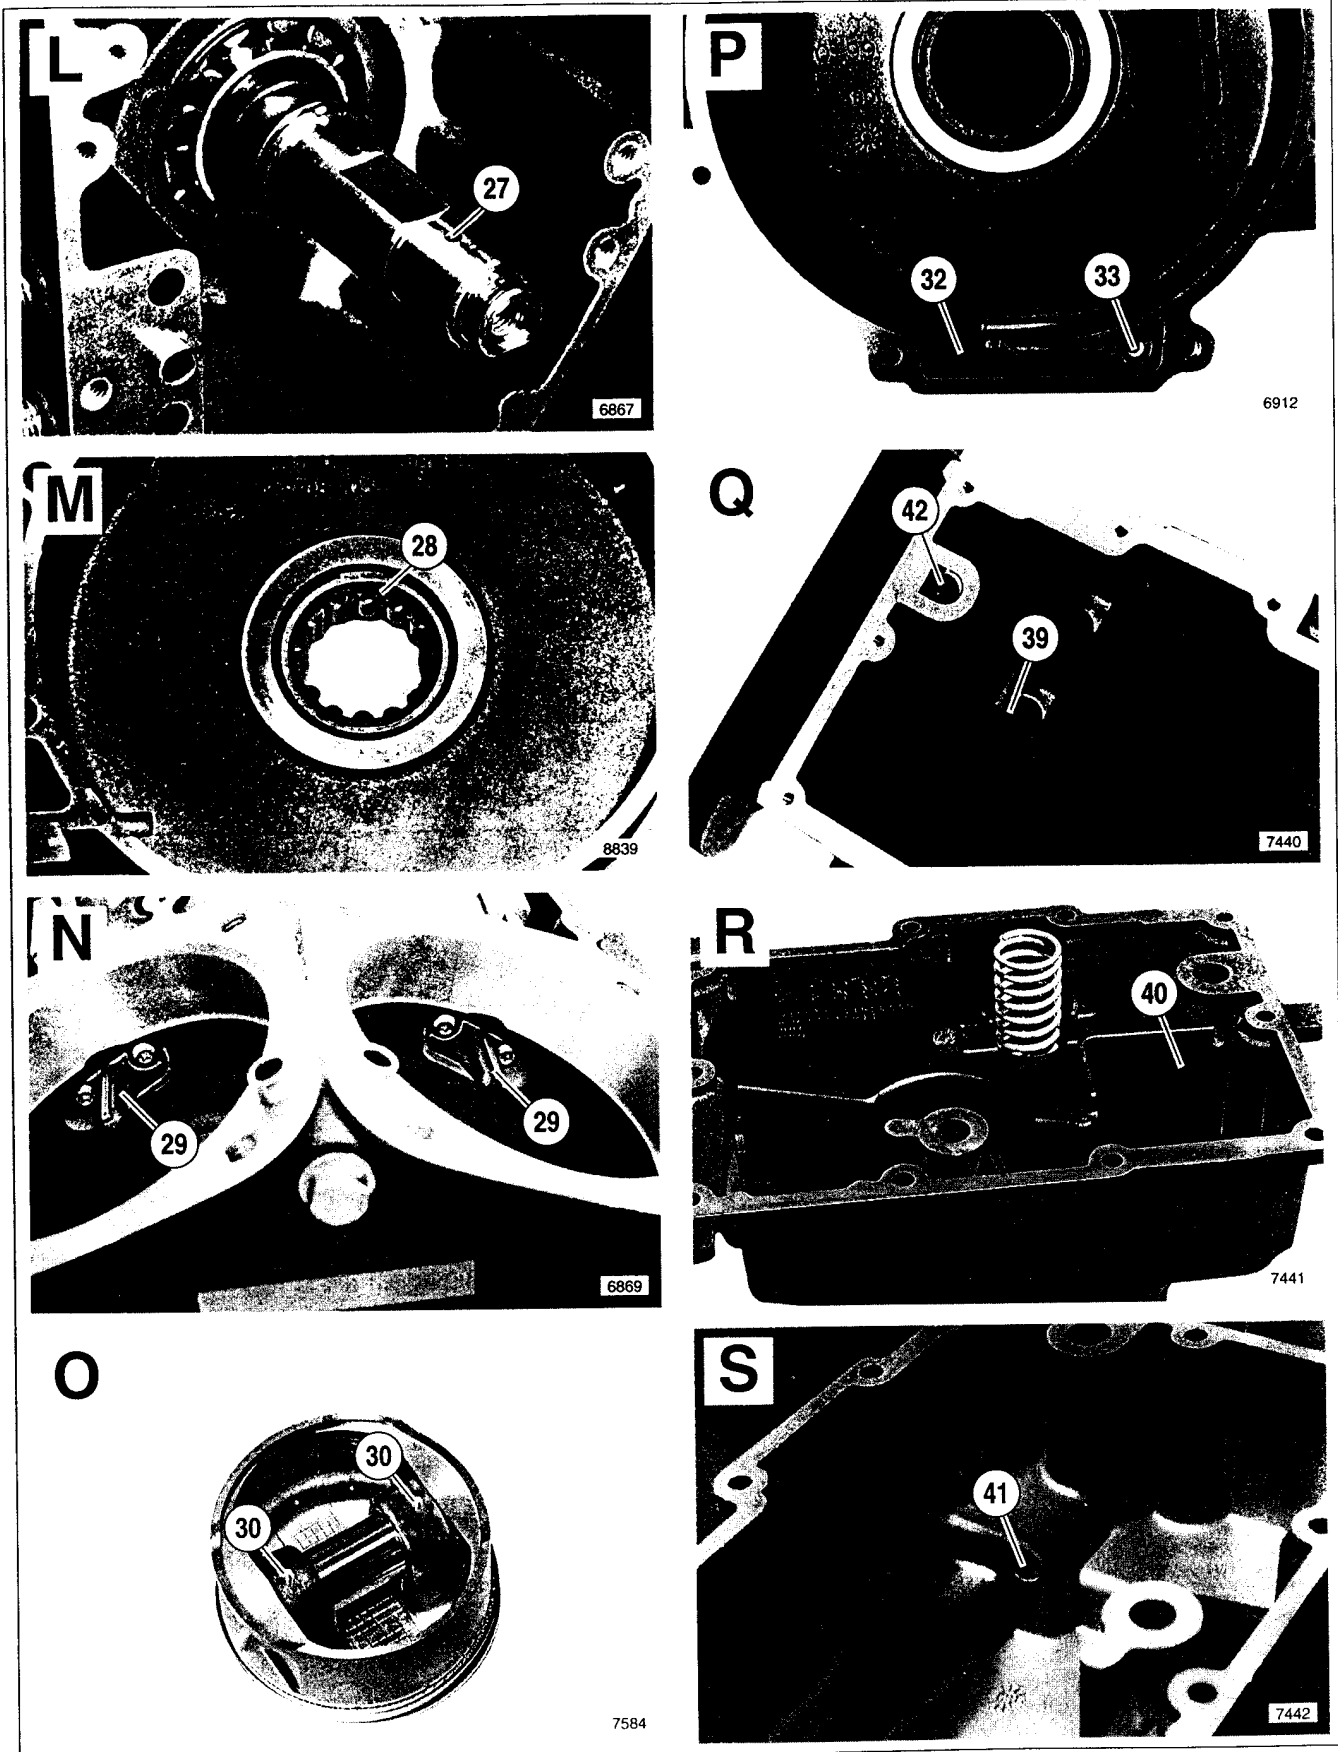

Figure 3-6. Engine Oil Flow - Bottom End
- Bottom end oil flow is shown in Figure 3-6.